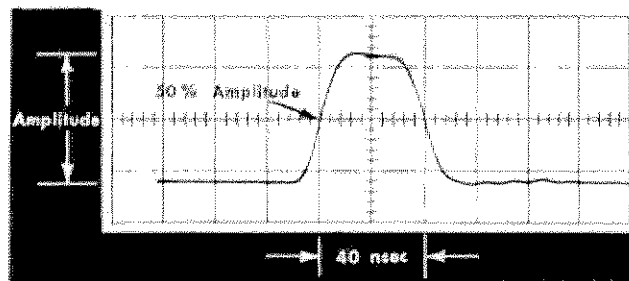

Fig. 6-8. Checking pulse duration and amplitude. Sweep rate is 20 nsec/cm.
- g. Check that the waveform has a pulse duration of about 40 nsec at the 50% -amplitude level (see Fig. 6-8).